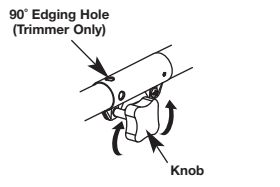

Fig. 4
1. Turn the knob counterclockwise to loosen (Fig. 4).
2. Turn knob counterclockwise to loosen (Fig. 4).
4. Turn the knob clockwise to tighten (Fig. 4).